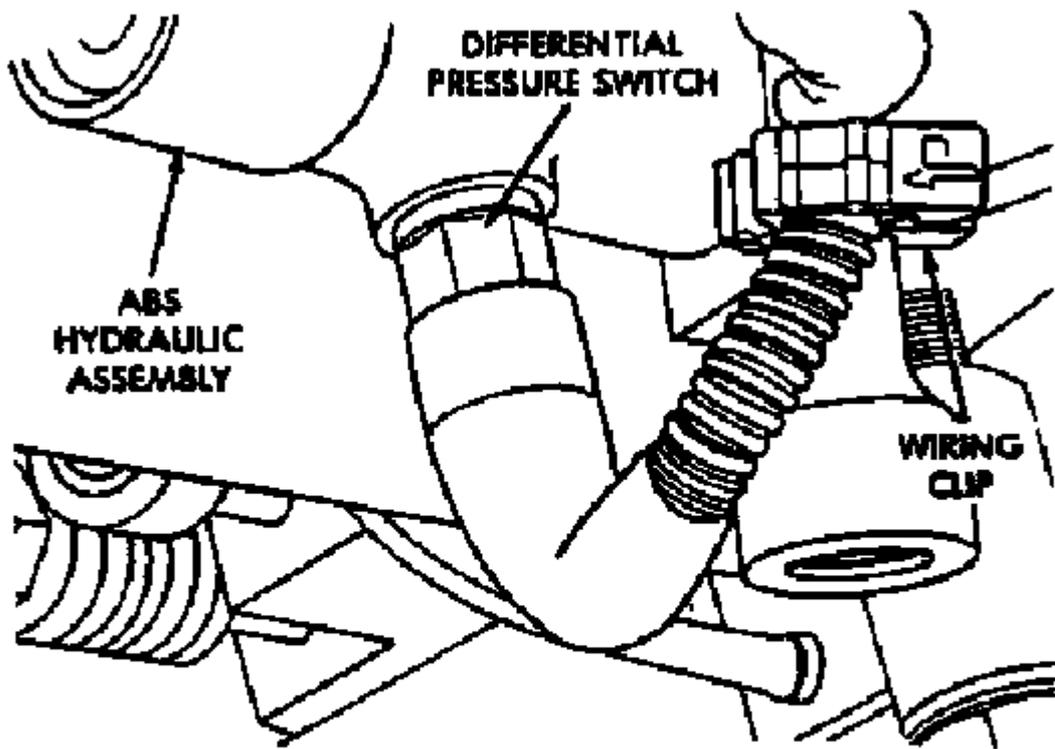

Figure 1
4. Remove the differential pressure switch and connector from the actuator housing (Figure 1).